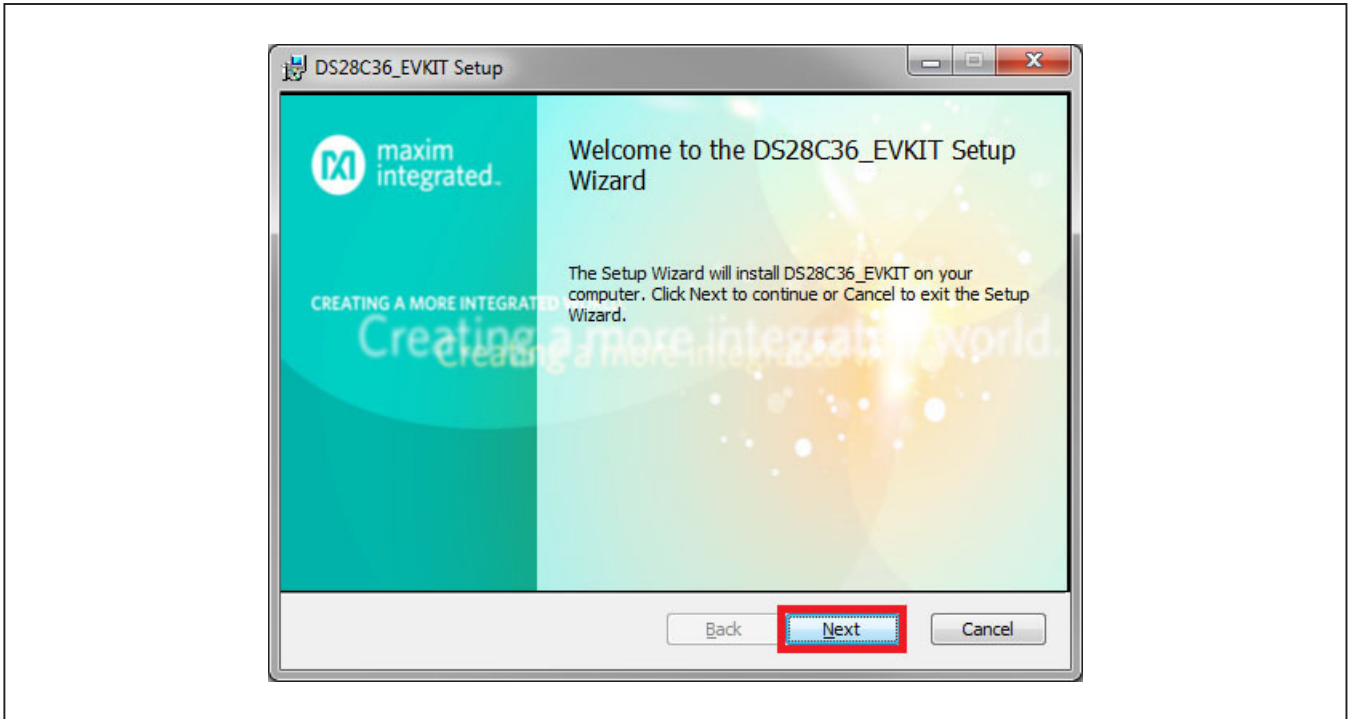

Figure 3. DS28C36 Setup Wizard
- 3) The Setup Wizard opens. Click on **Next**, as shown in Figure 3.